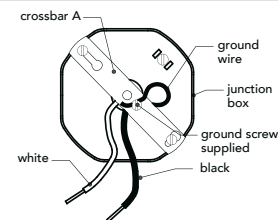
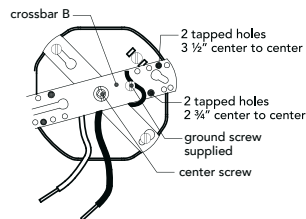
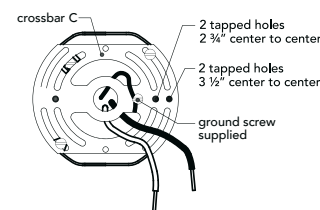

figure 1
figure 2
figure 3
1. Make sure a ground wire is solidly attached under the ground screw provided with the crossbar (*Figure 1*). When a ground wire is provided with the luminaire, make sure it is connected to the supply ground wire.
2. For single crossbar, attach crossbar A to junction box (*Figure 1*). Screw provided threaded nipple in the tapped hole in the center of the crossbar. Proceed to step 6.
3. For double crossbar, attach crossbar A to junction box (*Figure 1*). Attach crossbar B to crossbar A with center screw provided (*Figure 2*). Align horizontally the 2 tapped holes (Shown in black) and tighten center screw until crossbar B can no longer rotate. Proceed to step 5.
4. For round crossbar, attach crossbar C to junction box (*Figure 3*). Proceed to step 5.
5. Screw the 3 threaded studs provided into the crossbar 2 tapped holes shown in black at *Figure 2* (double crossbar) or at *Figure 3* (round crossbar). The 2 studs should be 2 3/4" or 3 1/2" center to center, but this distance may vary. Check the distance between holes on the luminaire mounting plate. (Wedge anchors not provided for certain pedestals.)